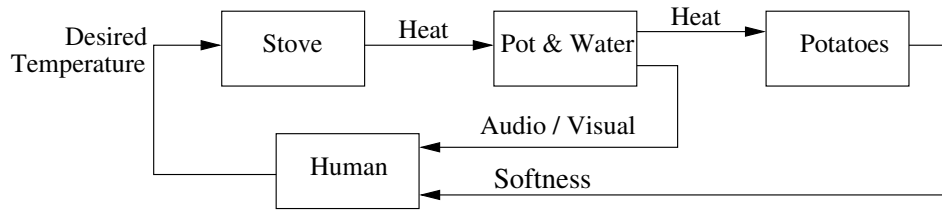

Figure 1.3 Block diagram representation of a person boiling potatoes.
- c. The scenario can be described as in Figure 1.3. The primary control variable available is the temperature of the hot plate, upon which the pot containing the water and the potatoes is placed. The temperature of the potatoes (which is what we really want to control) is affected only indirectly by the control signal. During the boiling sequence we use different senses to measure relevant quantities. Visual as well as audio information can be used to detect when the boiling starts. We might use a stick or fork to directly measure the state of the potatoes. We are likely to use feedback from different measured variables at different times.